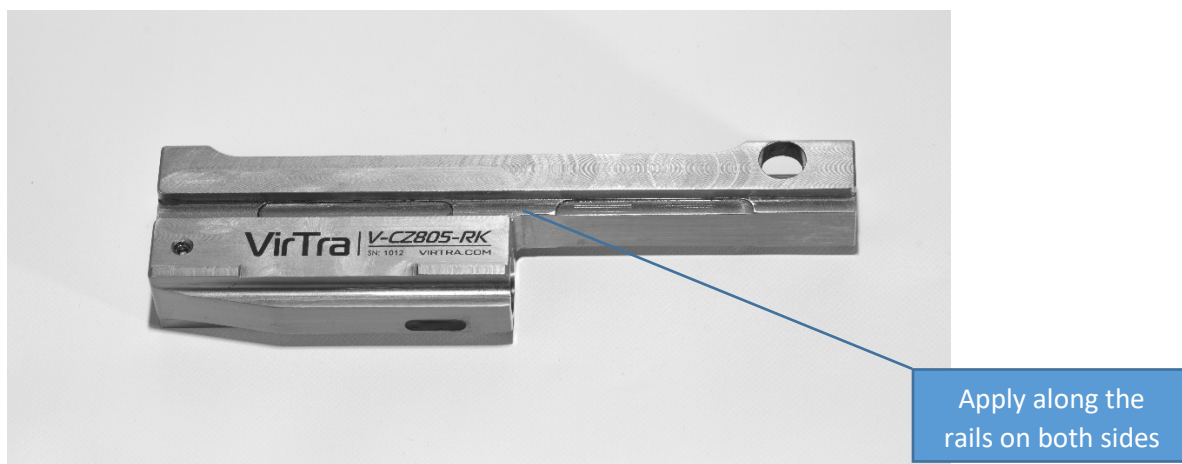

Figure 4: Bolt Carrier Lubrication 1
- Lubricate the rails of the Bolt Carrier on both sides, see Figure 4.